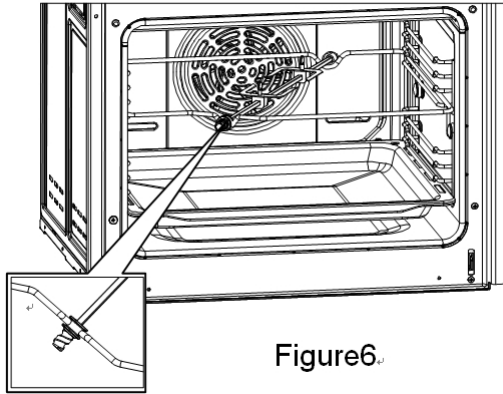

Figure6.
4. Insert the broach into the locating hole in the wall of the oven cavity. Place the rotary grilling broach with food into the rotary motor casing of oven chamber, (figure 6), ensuring both ends of the rotary grilling broach are located onto the rotary grilling bracket.